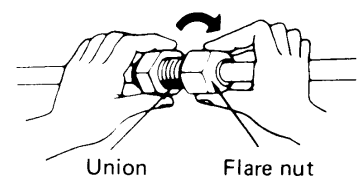

Fig. 27
- For proper connection, hold the tube with union and the flared tube straight with each other, screw in the flare nut lightly at first to obtain smooth match. Fig. 27